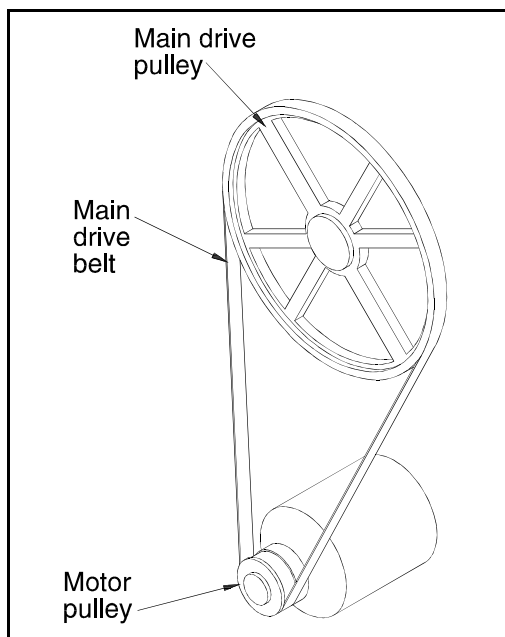
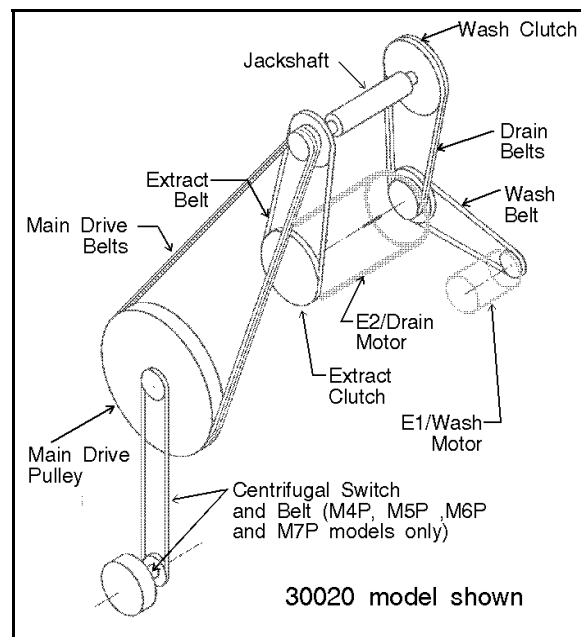
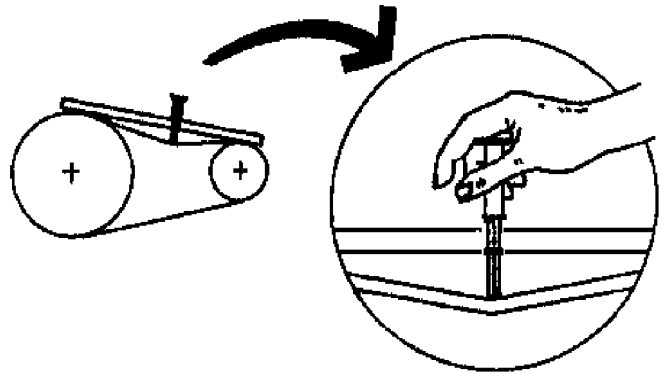

FIGURE 1 (MSSM0706BE)
FIGURE 2 (MSSM0706BE)
FIGURE 3 (MSSM0706BE)
Remove *single motor* (FIGURE 1) or *dual motor* (FIGURE 2) drive belts by loosening the threaded jacking rods that determine the belt tension for that pulley. **Do not force belts off by prying and turning pulley.** Check belt tension and pulley alignment after replacing the belts. When replacing belts on dual motor drive machines, observe the following:
1. Replace both the *drain belt* and *extract belt* (FIGURE 2) if either is worn.
Check belt tension (FIGURE 3) when replacing and adjusting drive train components. Belt tension testing tool (Milnor[®] part number 30T001), straight edge, and Belt Tension Tables are required when setting belt tensions. **Do not refer to instruction sheet provided with tension testing tool.** Check tensions for new belts according to the following schedule:
2. Determine deflection for the tested belt (see FIGURES 1 and 2 for the belt location and Tables A and B for the setting range). Move lower O-ring to the correct setting (inches or centimeters) on scale. Read the bottom edge of the O-ring.
3. Place a straight edge along the top edge (pulley to pulley) of the belt to be tested (FIGURES 1 and 2). Depress the tension testing tool by sliding the cap against the middle of the belt span until the bottom edge of the lower O-ring aligns with the straight edge as shown in FIGURE 3.